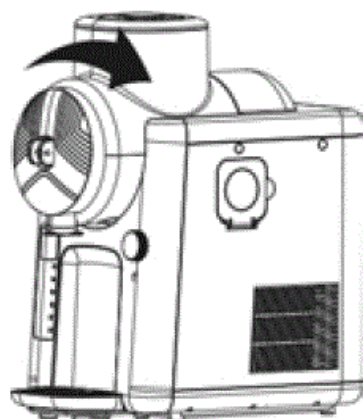

Fig. 3
10. Now push the mixing container onto the mixer and lock the container by turning it clockwise (Fig. 3).